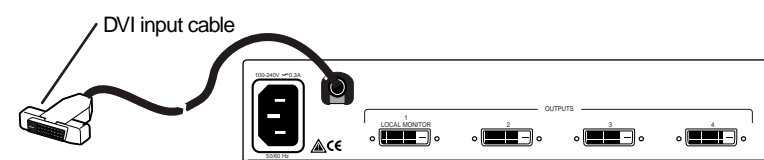
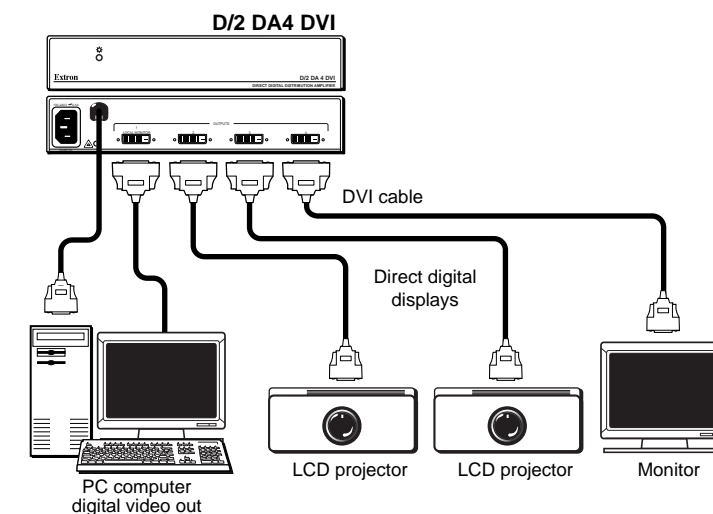

Figure 2 — D/2 DA4 rear panel
Figure 3 — D/2 DA4 DVI typical application
3. Connect the D/2 DA4 DVI input cable (figure 2) to the DVI video output port of the computer (figure 3).